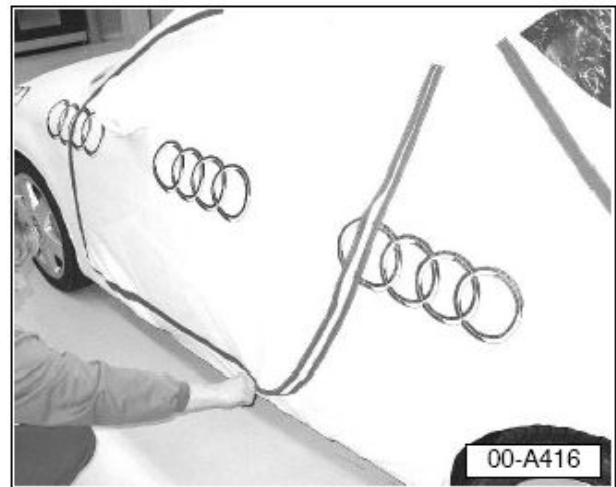

Figure 6. Zipped-up door cover.
6. Close vehicle door and zip up access door in cover (Figure 6).